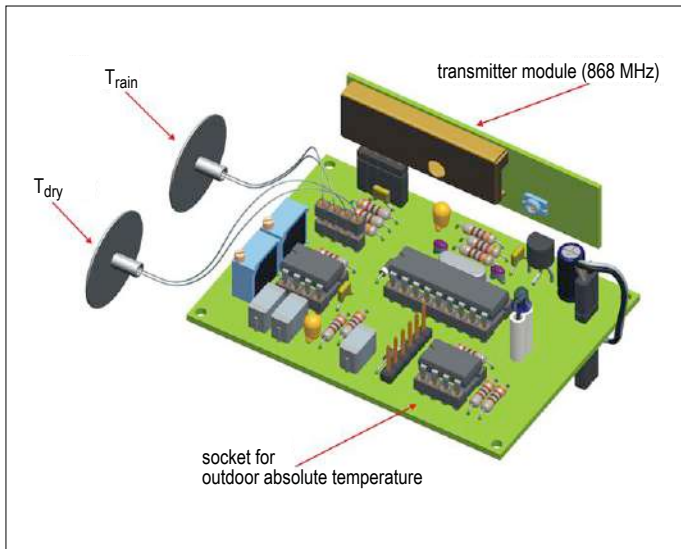
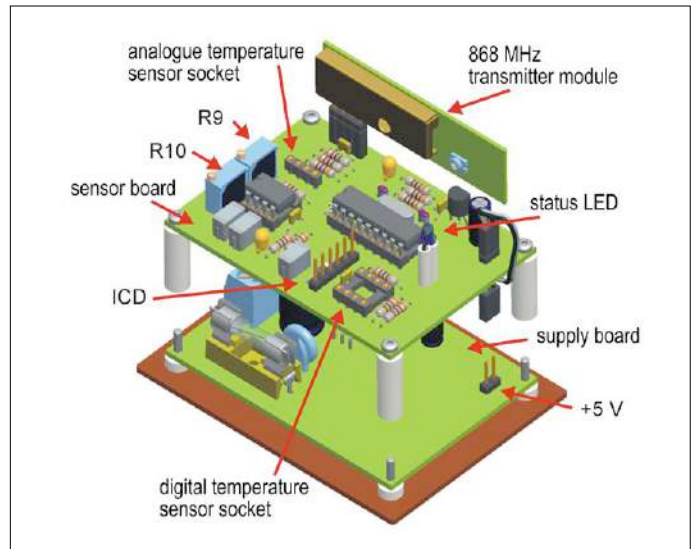

Figure 4a. The components can be mounted on prototyping board like this.
Figure 4b. The circuit board with the parts for the power supply is underneath the sensor board.
**Figure 4a** and **Figure 4b** give an impression of how the author